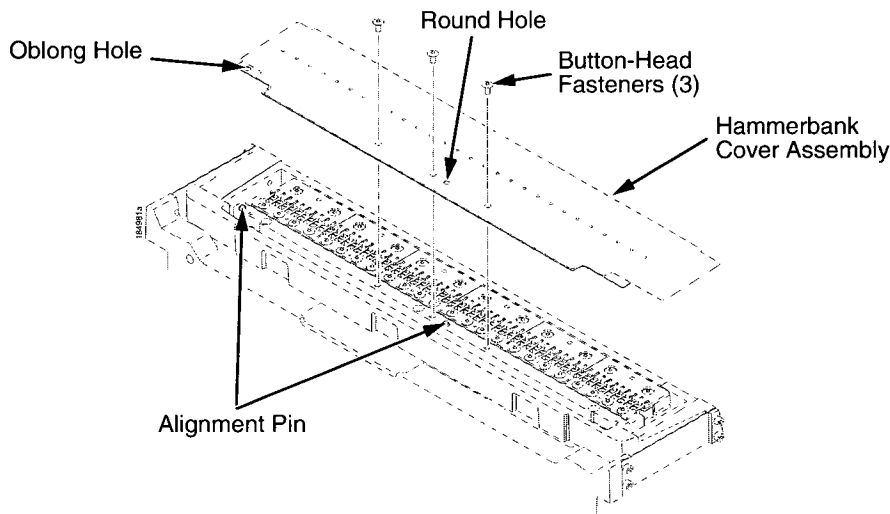

Figure 39. Hammerbank Cover Assembly
4. Lift the thick plate of the hammerbank cover assembly at one end, and peel the cover away from hammerbank magnets. (See Figure 39.)
1. With the thick plate facing the hammerbank, hold the hammerbank cover assembly at a slight angle and engage the bottom edge on the alignment pins. First engage the center (round) hole, then the left (oblong) hole, to ensure that the cover lies flat on the hammerbank. (See Figure 39.)